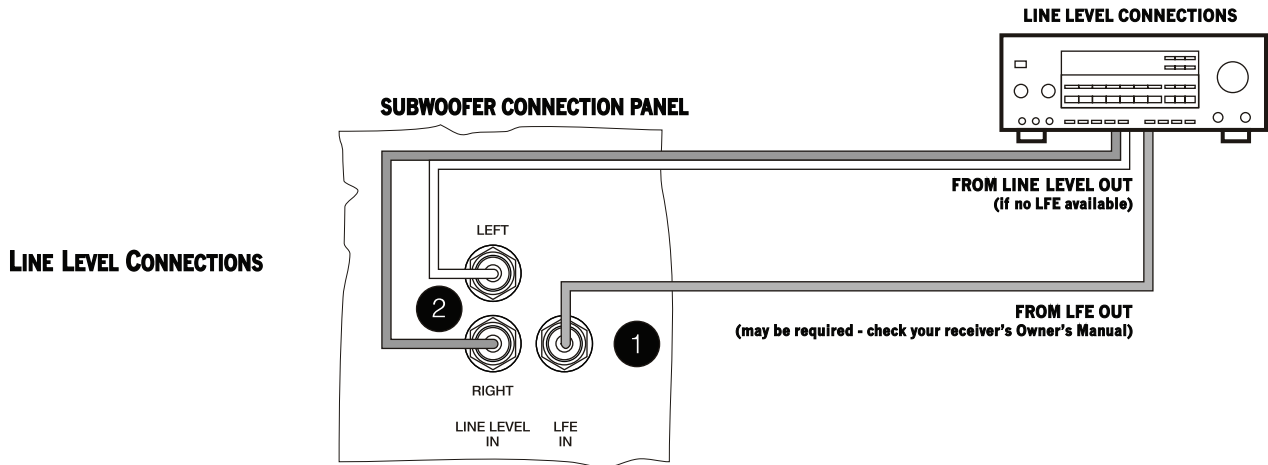

Figure 2
Connect the LFE Output of an A/V receiver to the LFE Input (1) of the XLS subwoofer, or connect the left and right line level outputs of an AV receiver to the left and right Line Level Inputs (2) of the XLS subwoofer. (Figure 2). See your A/V receiver's bass management instructions for proper integration into your system.